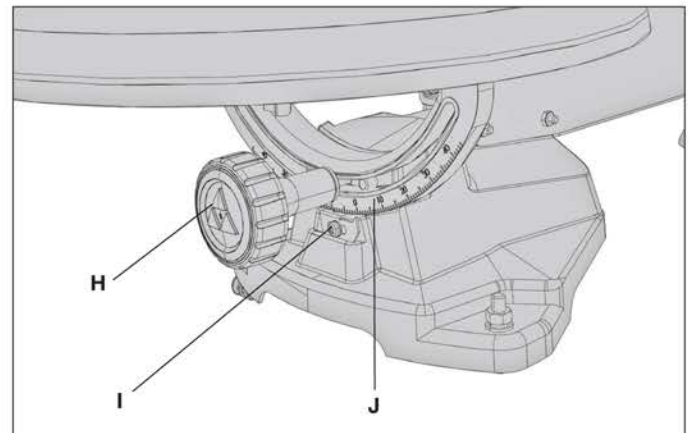

FIG. 8
the bevel lock knob (H) Fig. 8, and bevel the table to the desired setting on the bevel scale (J), indicated by the bevel pointer (I).